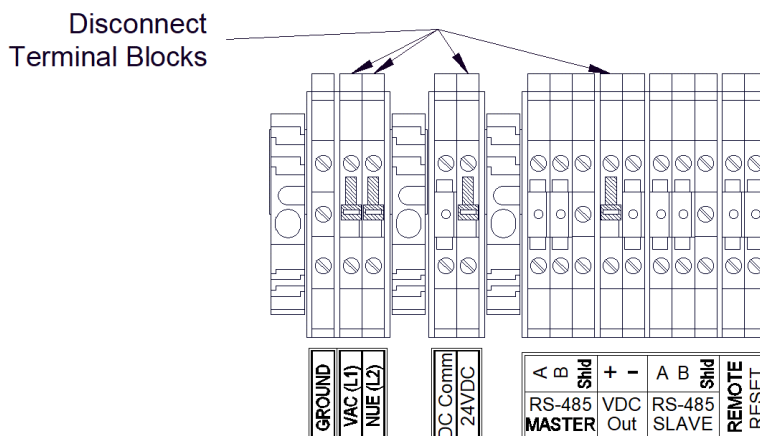

Figure 8 N1P and N1R Connections
3. Install AC or DC power as follows: (Refer to Figure 8.)
4. Connect the external Modbus™ sensors at the RS-485 connections labeled **RS-485 Master: 'A', 'B', and 'Shld'** (Figure 8).